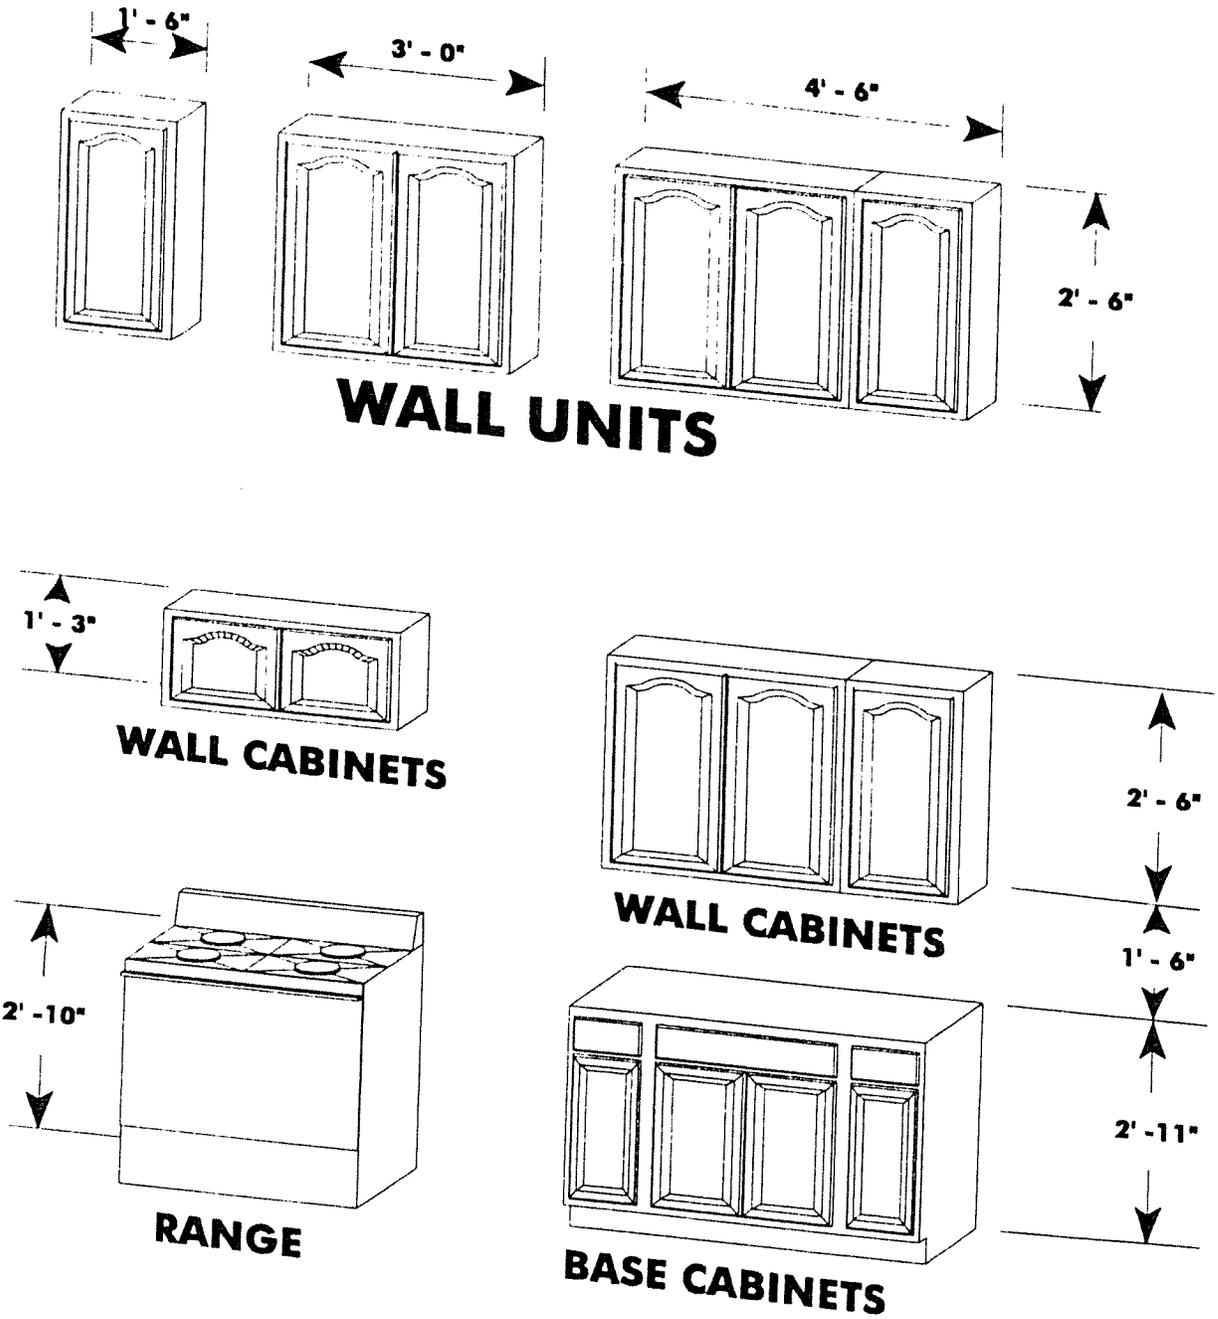

FIGURE 12.1
7. See **Figure 12.1** for typical kitchen cabinet designs.